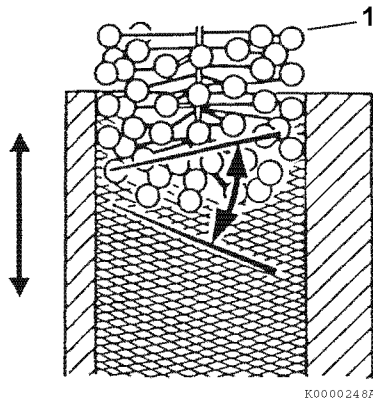

Figure 6-80
*Note: When honing a cylinder, with either a ridged hone or a ball hone (**Figure 6-80, (1)**), move the rotating hone up and down in the cylinder bore to accomplish a 30° to 40° crosshatch pattern (**Figure 6-80**). This will provide the ideal surface for the proper seating of new piston rings.*